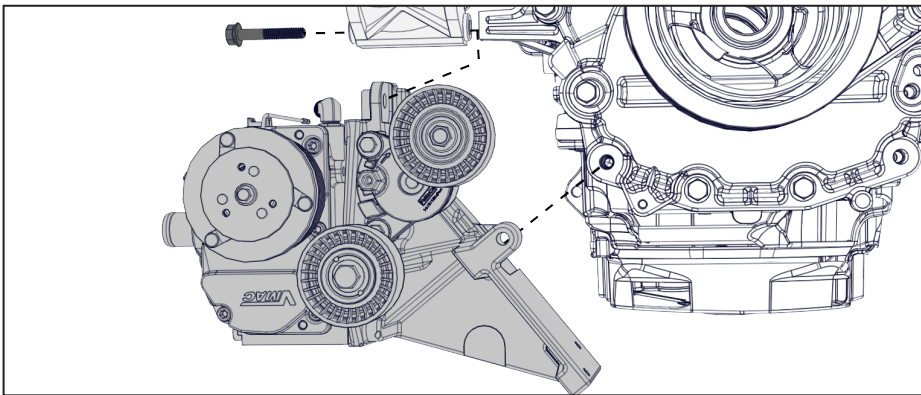

Figure 23 — Installing the main bracket
- Withdraw the bottom A/C compressor bolt and while holding the A/C compressor away from its engine mounting points, insert the VMAC main bracket between the A/C compressor and the engine (Figure 23).